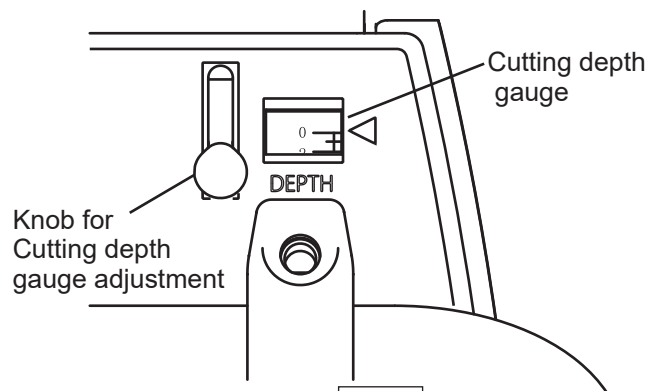

Fig. 9
- The cutting depth gauge indicates the cutting depth at work. The cutting depth gauge is compatible with 14 to 18 inch blades and should be used with "the knob for cutting depth gauge adjustment" to adjust the position of the scale. (Fig.9)